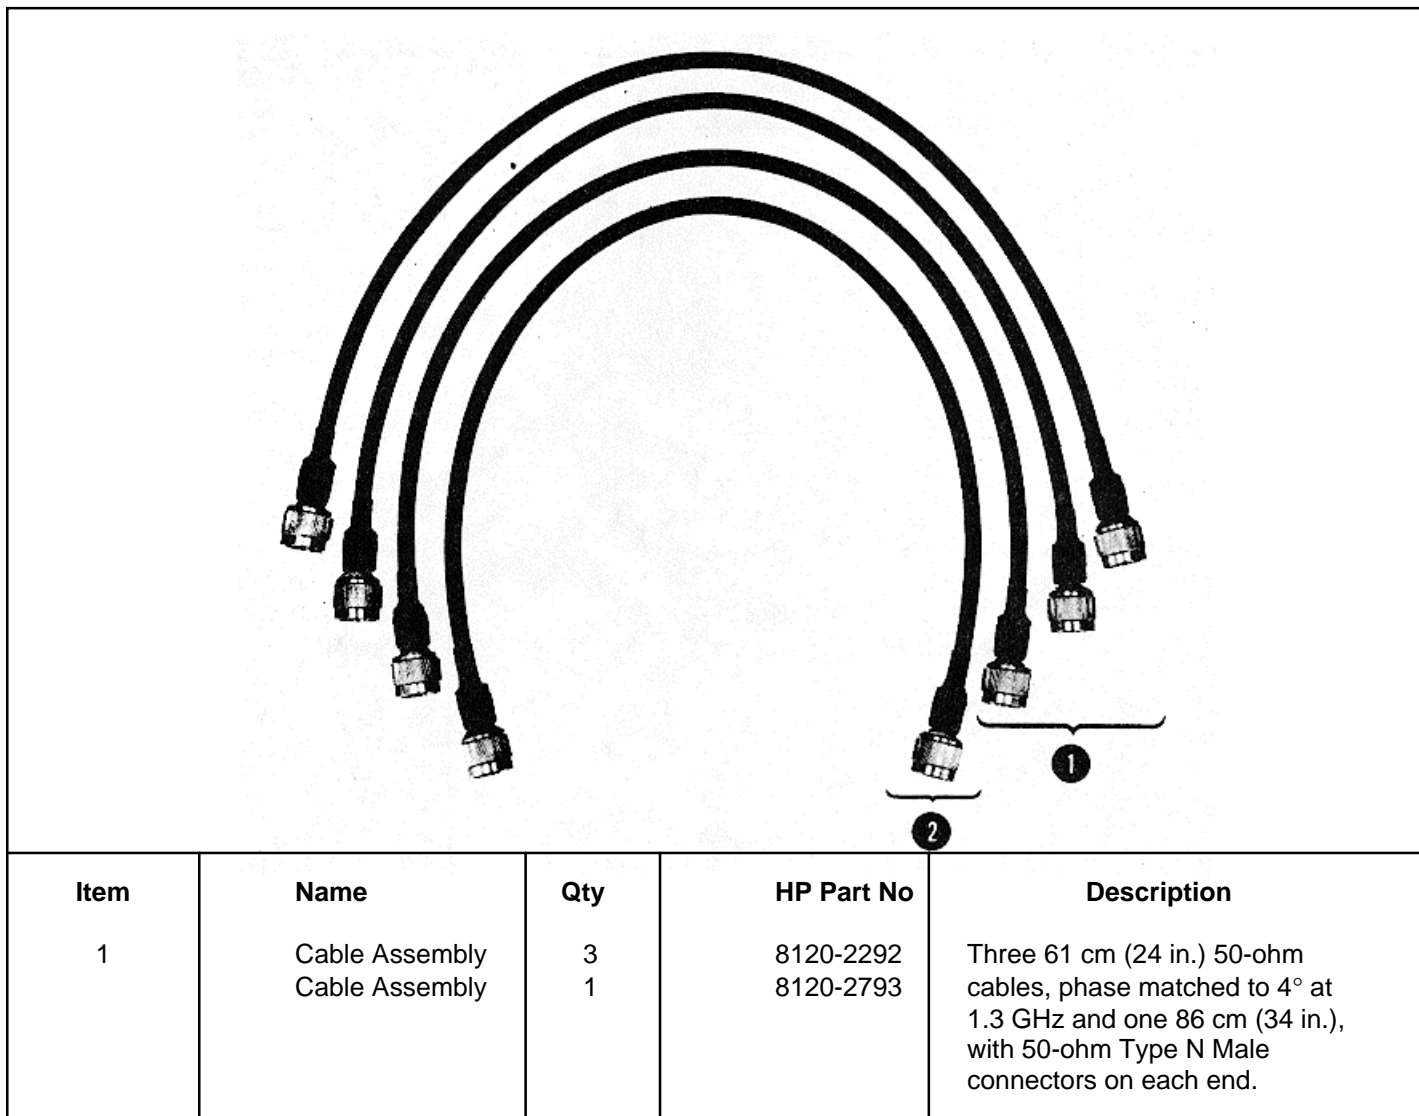

Figure 3. HP Model 11851A Cable Accessory Set
13. Hewlett-Packard Cable Accessory Set 11851 A, shown in Figure 3, contains four doubleshielded and phase-matched cables for high accuracy measurements with the HP Model 8505A Network Analyzer and other instruments.